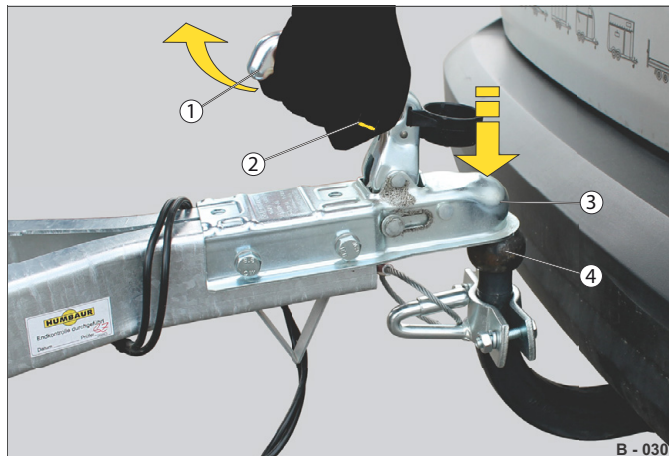

Fig. 8 Example: couple unbraked trailer
- Press the safety catch (Fig. 8 /2) all the way in.
- Pull the handle up (Fig. 8 /1) completely and release the safety catch.
- Place the spherical cup (Fig. 8 /3) on the ball head (Fig. 8 /4).